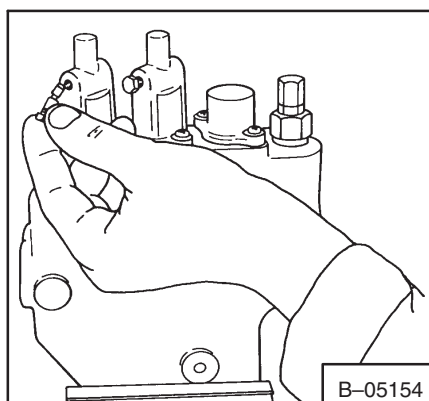

Fig. 2-9 Removing Plug
2. Remove the detent cap screws, springs and balls (Fig. 2-9).